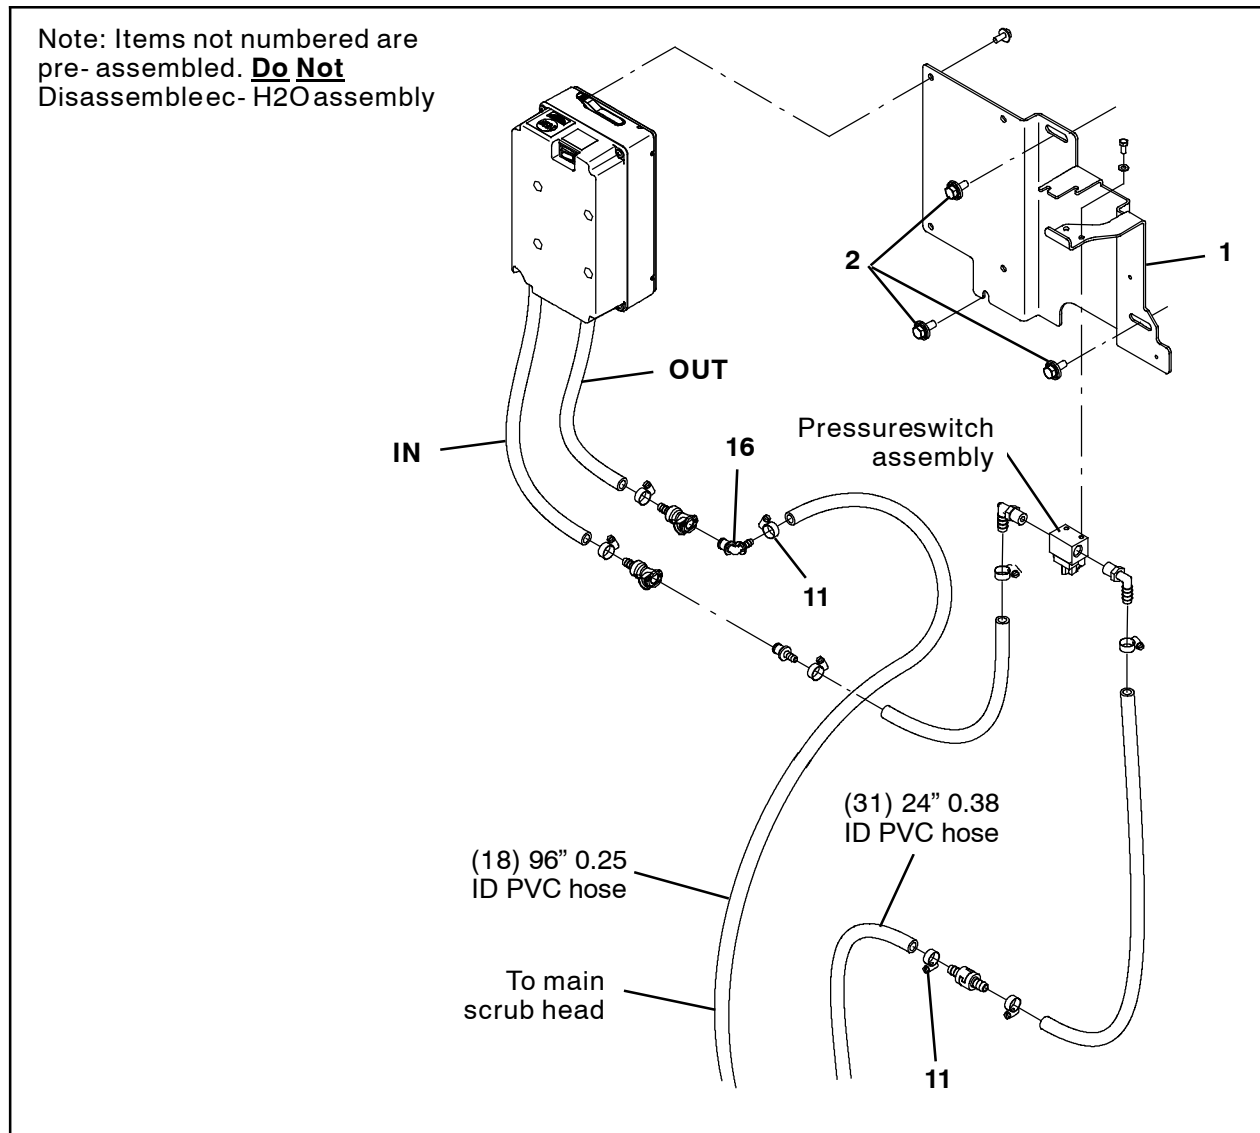

FIG. 9
1. Use three SEMS M8 hex screws to install the ec-H2O assembly to the machine. (Fig. 9)
3. Use a hose clamp (11) to install a 90° plastic fitting (16) onto one end of the 96" 0.25 ID PVC hose (18). (Fig. 9)
4. Connect the hose assembly assembled in the previous step to the hose from the OUT port of the ec-H2O assembly. (Fig. 9)
5. Use a hose clamp (11) to connect the 24" 0.38 ID PVC hose (31) to the hose from the pressure switch assembly. (Fig. 9)